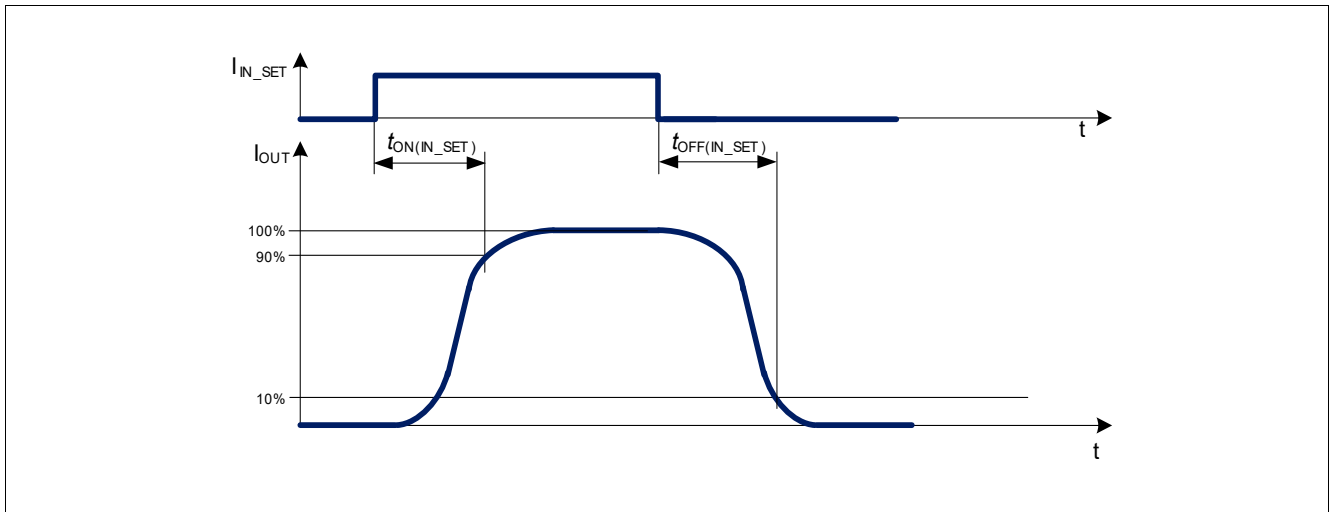
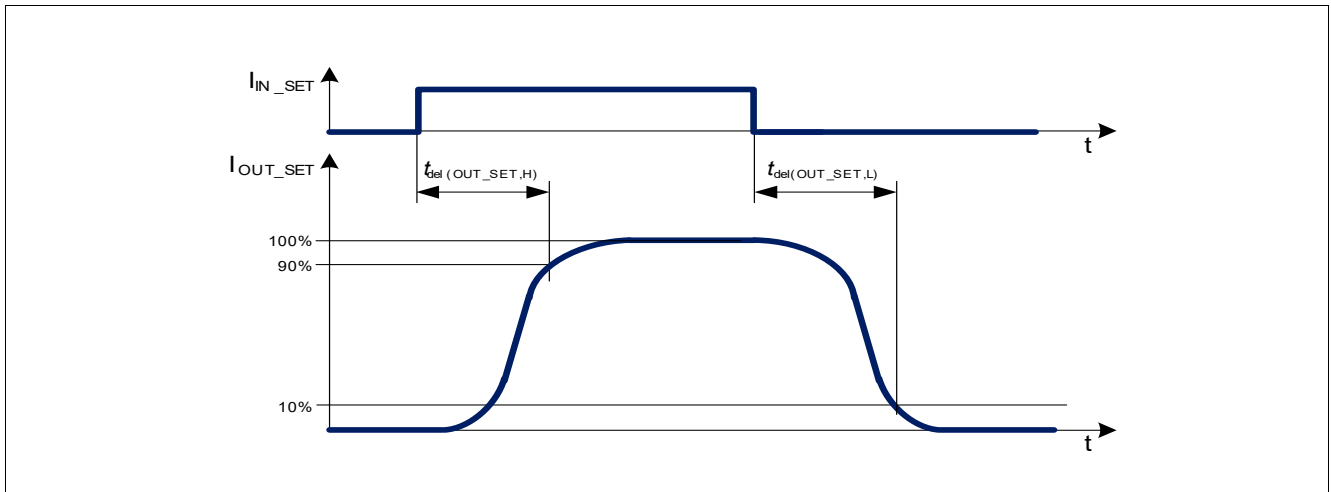
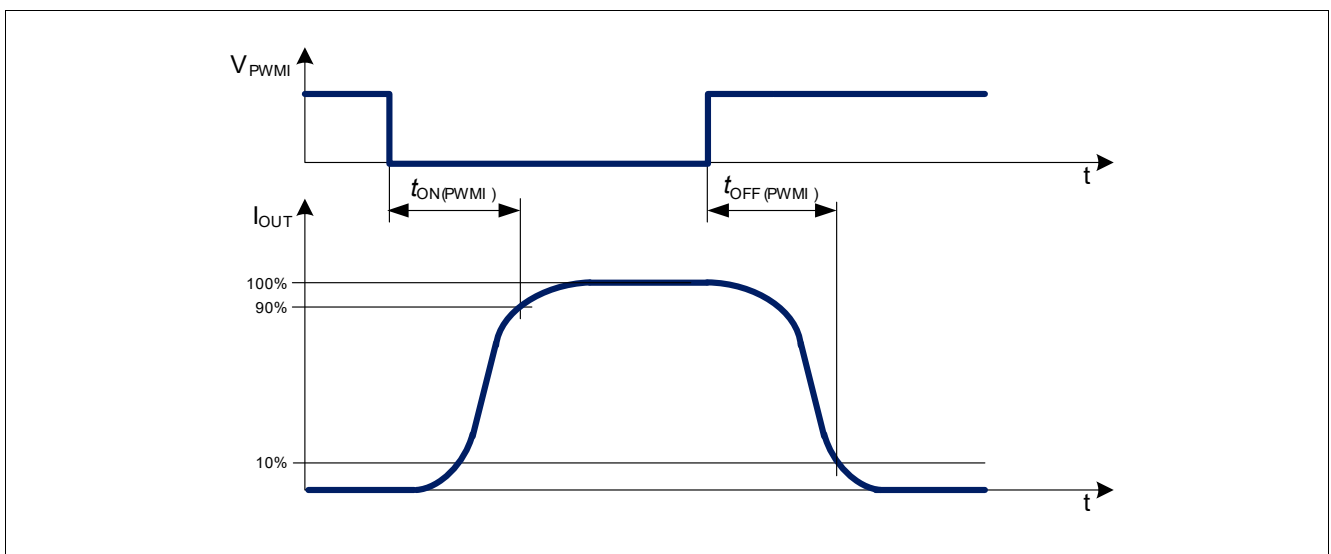

Figure 12 IN\_SET turn on and turn off delay timing diagram
Figure 13 IN\_SET to OUT\_SET activation and deactivation delay timing diagram
Figure 14 PWMI turn on and turn off timing diagram
In the following diagrams (Figure 12, Figure 13, Figure 14) the influences of different driving inputs on output activation delays are shown.
- 2) Refer to Figure 12
- 3) Refer to Figure 13
- 4) Refer to Figure 14